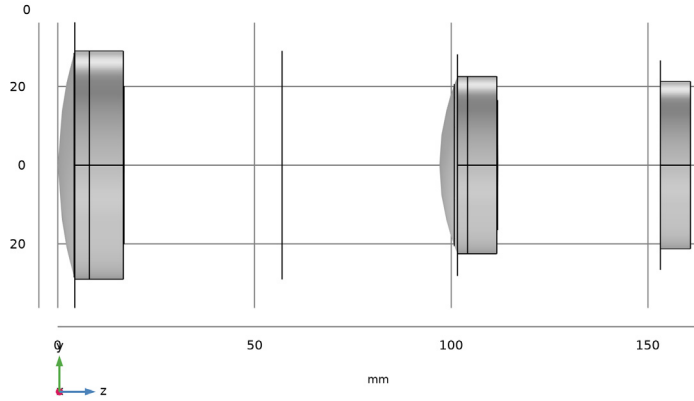
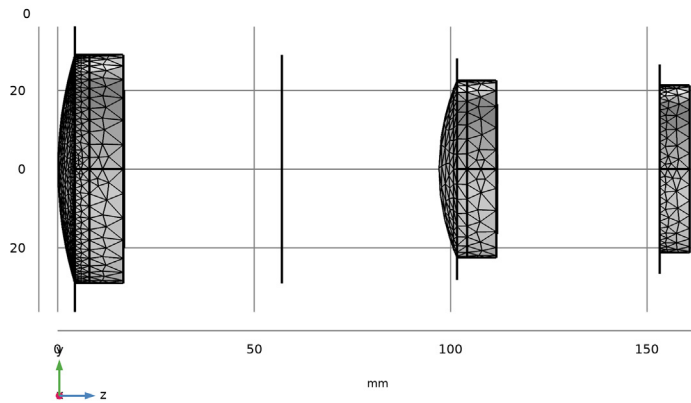

Figure 2: The Petzval lens geometry sequence.
Figure 3: The Petzval lens mesh.
It is important to appreciate that the ray tracing method used by the Geometrical Optics interface is inherently non-sequential, so the same result could be obtained by placing part instances within the geometry in any order. In order to limit the rays to those that reach the focal plane, additional aperture stops and obstructions are added to the geometry. These items can also be placed by using the predefined work planes from each of the lens part instances. The Petzval lens geometry sequence is shown in Figure 2 and the mesh can be seen in Figure 3.
- 9 Click the  **Go to ZY View** button in the **Graphics** toolbar. This will orient the view to place the optical axis ( $z$ -axis) horizontal and the  $y$ -axis vertical. Compare the resulting geometry to Figure 2.